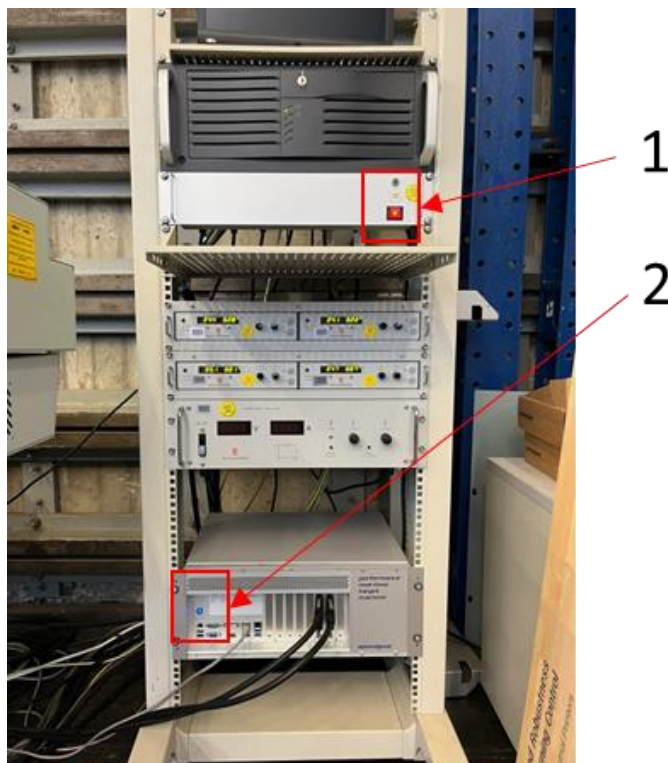

Figure 1 - Power switch target system
At the beginning of each session, turn on the red (1) and blue (2) power button to the target system, as shown in Figure 1. When done experimenting make sure to turn of the power again.